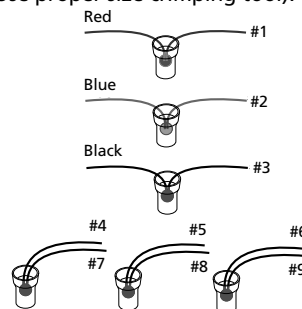

Figure 3 Termination Diagram
4. Crimp the termination connectors or twist-on wire nut supplied in kit for each motor as shown in Figure 3. (Use proper size crimping tool).